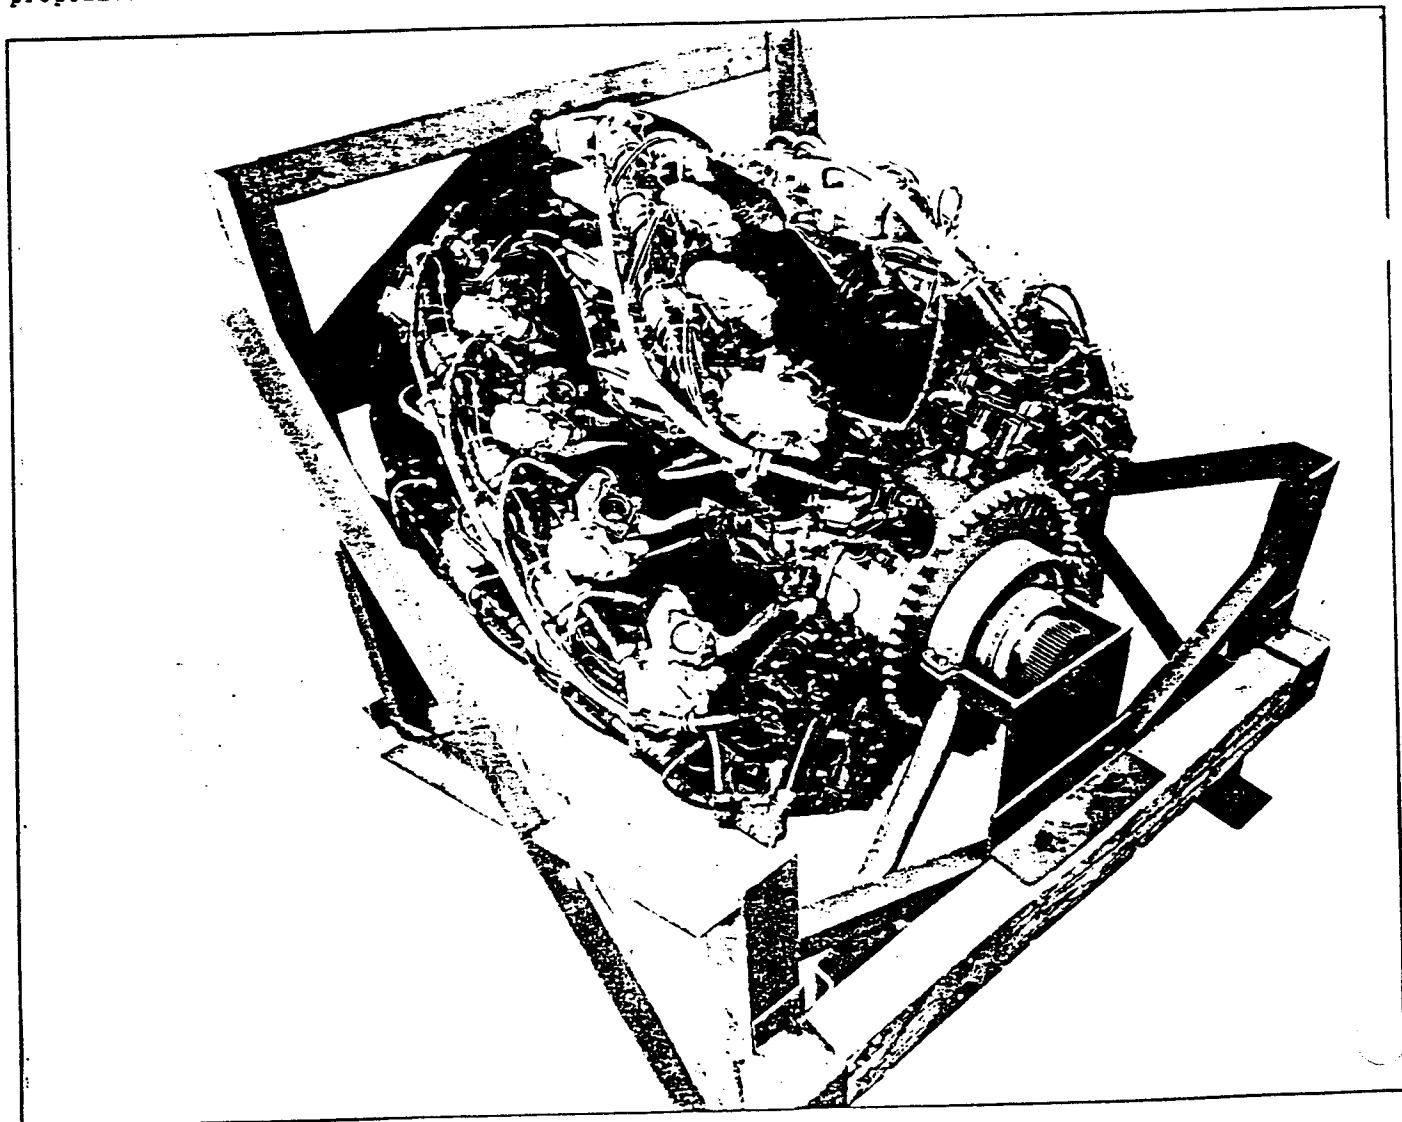

Figure 1. Engine - Front Left Side View
b. ENGINES. (See figures 1 thru 4 inclusive
which complete the engine assembly (as assembled immediately prior to installation), prevent interchangeability. However, for purpose of differentiation, the inboard engine assemblies are designated as R-4360-17 engines, and the outboard engine assemblies as R-4360-21 engines. Accessory installations include the engine cooling fan and supplementary components exhaust collector ring, headers, and cooling ground assemblies; tail pipe and aspirator (outboard engines only), engine mounting equipment, starter, fuel pump, fuel flowmeter, and various control mechanisms and instrument installations. A location of these accessories may be ascertained by referring to figures 1 thru 17 inclusive. Likewise additional information, as applicable, will be found in Section IV, paragraphs 3 to 14 inclusive.